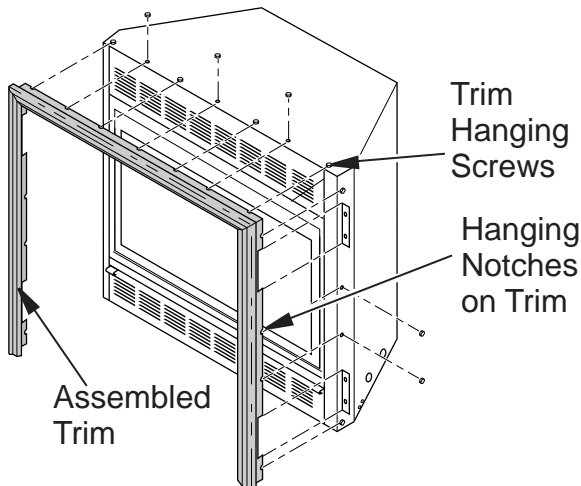

Figure 7 - Attaching Trim to Fireplace
8. Tighten trim hanging screws (#10 x 6.25 shoulder) into holes in cabinets. Place assembled trim onto fireplace cabinet. Align hanging notches on trim with hanging screws on side of fireplace (see **Figure 7**). Push trim firmly into place, sliding hanging notches over hanging screws.
15. Install trim after final finishing and/or painting of wall (see **Figure 7, Page 8**).